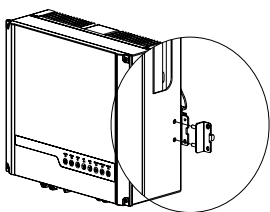

Figure 3.4-5
5. Fix the inverter with the lock plate in accessory bag. Refer to Figure 3.4-5.